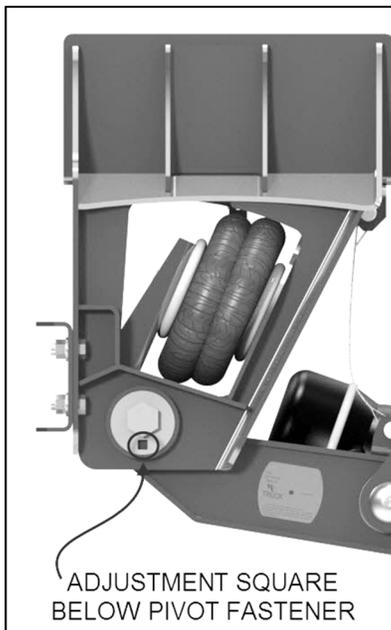

Figure 17
| <ol style="list-style-type: none"> 1. Locate the vehicle on a flat level surface. 2. Secure the vehicle so that it cannot move by blocking the vehicles drive tires fore and aft. 3. Install the wheels and tires on the auxiliary axle suspension system. | <ol style="list-style-type: none"> 4. Lower the auxiliary axle suspension system so that the tires contact the ground. 5. Release the brakes on the auxiliary axle suspension system. 6. Adjust all four (4) eccentric collars so that the adjustment square is positioned vertically below the pivot fastener (See Figure 17). |